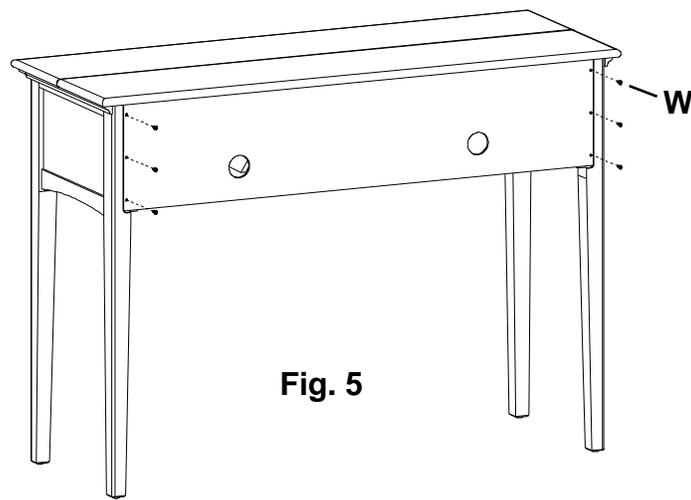

Fig. 5
5. Using the pilot holes, secure Back Panel to back legs of the Left Side Assembly and the Right Side Assembly with six #6x5/8" Philtruss Screws (W). See Figure 5.